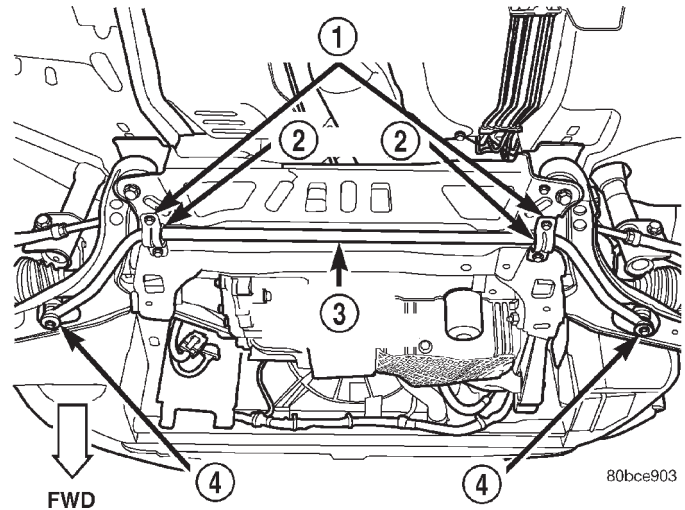

Fig. 18 Stabilizer Bar
(1) Raise the vehicle. Refer to HOISTING in the LUBRICATION AND MAINTENANCE group for the proper lifting procedure.
(2) Remove both stabilizer bar links from the vehicle (Fig. 18). Remove each link by holding the upper retainer/nut with a wrench and turning the link bolt.
(3) Remove the stabilizer bar cushion retainer bolts and retainers (Fig. 18), and remove the stabilizer bar with cushions attached from the vehicle.
(4) To remove the cushions from the stabilizer bar, peel back each cushion at the slit and roll it off the bar.
(2) First, place the stabilizer bar in position on the front suspension crossmember. The slits in each cushion must point toward the front of the vehicle and sit directly on top of the raised beads formed into the stamping on the crossmember. Next, install the cushion retainers, matching the raised beads formed into the cushion retainers to the grooves formed into the cushions. Install the cushion retainer bolts, but do not completely tighten them at this time.
(3) Install both stabilizer bar links back on vehicle (Fig. 18). Start each stabilizer bar link bolt with bushing from the bottom, through the stabilizer bar, inner link bushings, lower control arm, and into the upper retainer/nut and bushing (Fig. 1). Do not fully tighten the link assemblies at this time.